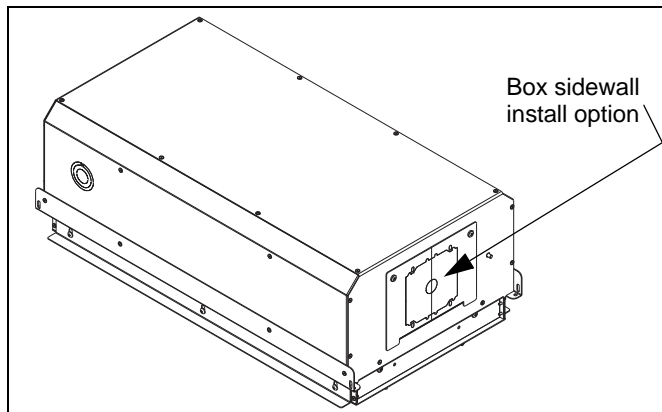

**Figure 4**
1. Drill a 5/32" diameter x 1-1/2" deep pilot hole at each marked cable anchor support location. Ensure hole is at least 5/8" from nearest wood edge. Remove debris from hole. (See Figure 4)
2. Fully thread eye lag (F) into each hole. (See Figure 4)
3. Route end of cable (B) through eye lag (F) and then through cable loop. Repeat for 3 remaining support locations. (See Figure 4)